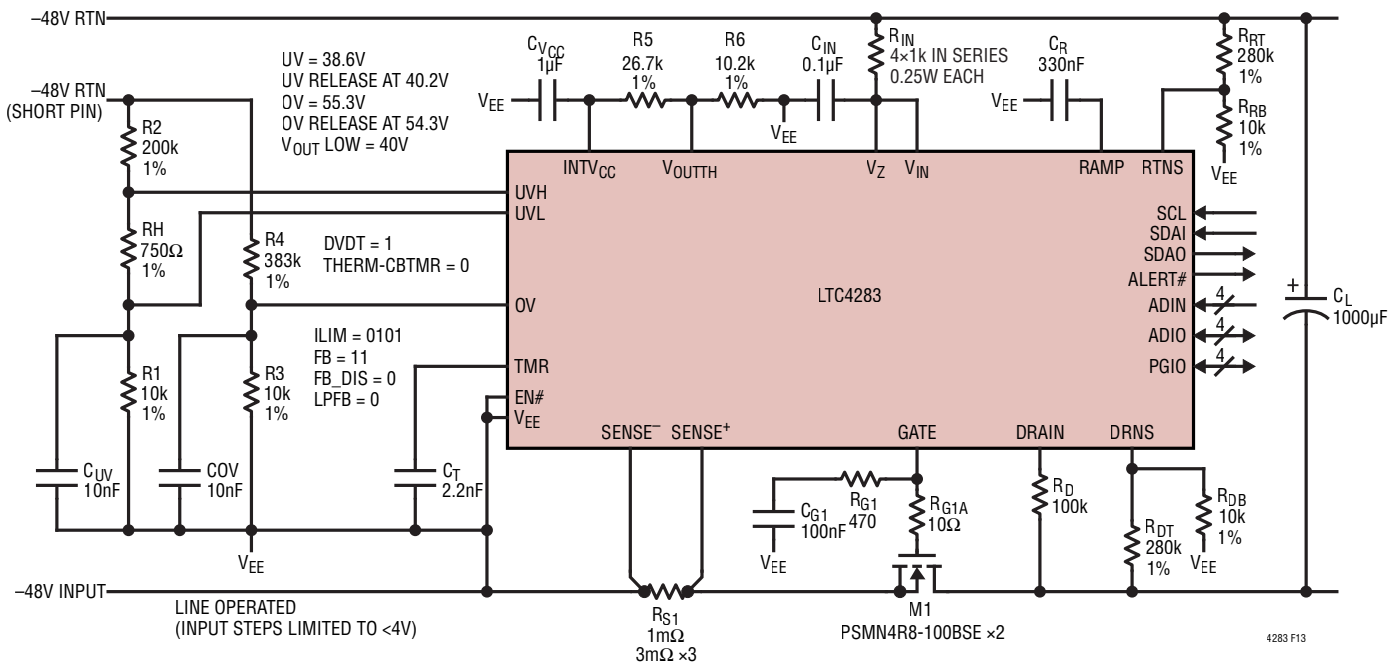

Figure 13. -48V/800W Hot Swap Controller with dV/dt Inrush Control
The second example is a line operated -48V system with supply tolerance of 10% (-43.2V to -52.8V) and maximum load power of 800W as shown in Figure 13. The load capacitance is specified as  $C_L = 1000\mu\text{F}$ .
INTVCC (5V) and VEE. The divider ratio is 5V/1.379V = 3.63. A divider of 26.7k and 10.2k as shown Figure 13 gives a close enough ratio of 3.62.
Although it is possible to use a single, four-resistor (or three-resistor if UVH and UVL connected together) divider as shown in Example 1, Step 7, two independent dividers with 2 (OV) or 2 to 3 (UV) resistors in each divider make it easier to make non-interactive changes at a later time. The two dividers as shown in Figure 13 gives UV shutdown at 38.6V, UV release at 40.2V, OV shutdown at 55.3V and OV release at 54.3V, which covers the full input voltage range of this example. 10nF capacitors filter out noises on UVL and OV.